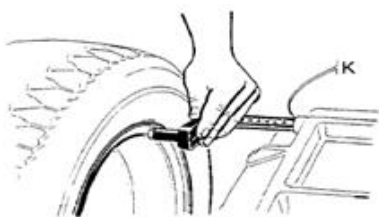

Fig.1
- set “a” value: move the gauge to measuring position as illustrated as Fig.1, hold the gauge still in position for approx. 4 seconds, successful memorization is given, then return the gauge to position 0.